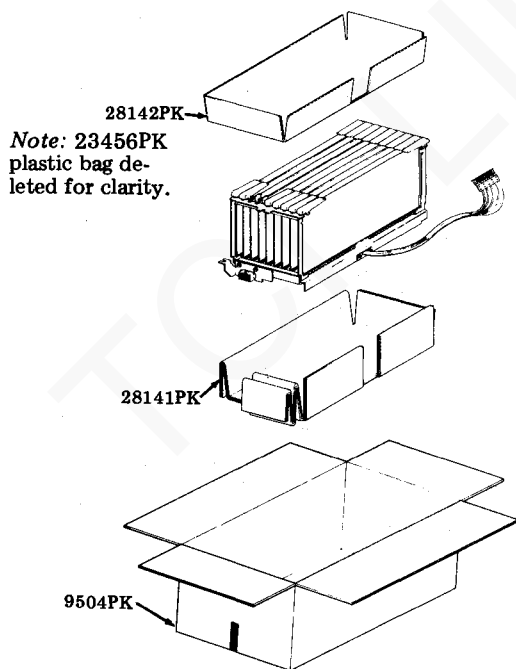

Fig. 56
- Step 2. Form detail 28141PK and position in carton as illustrated in Fig. 56.
- Step 4. Form 28142PK detail and position in carton on top of unit as illustrated in Fig. 56. Position cable in void formed by detail.
- Step 6. Form 10188PK shipping container. Form bottom flaps outward and place over inner container as illustrated in Fig. 56.